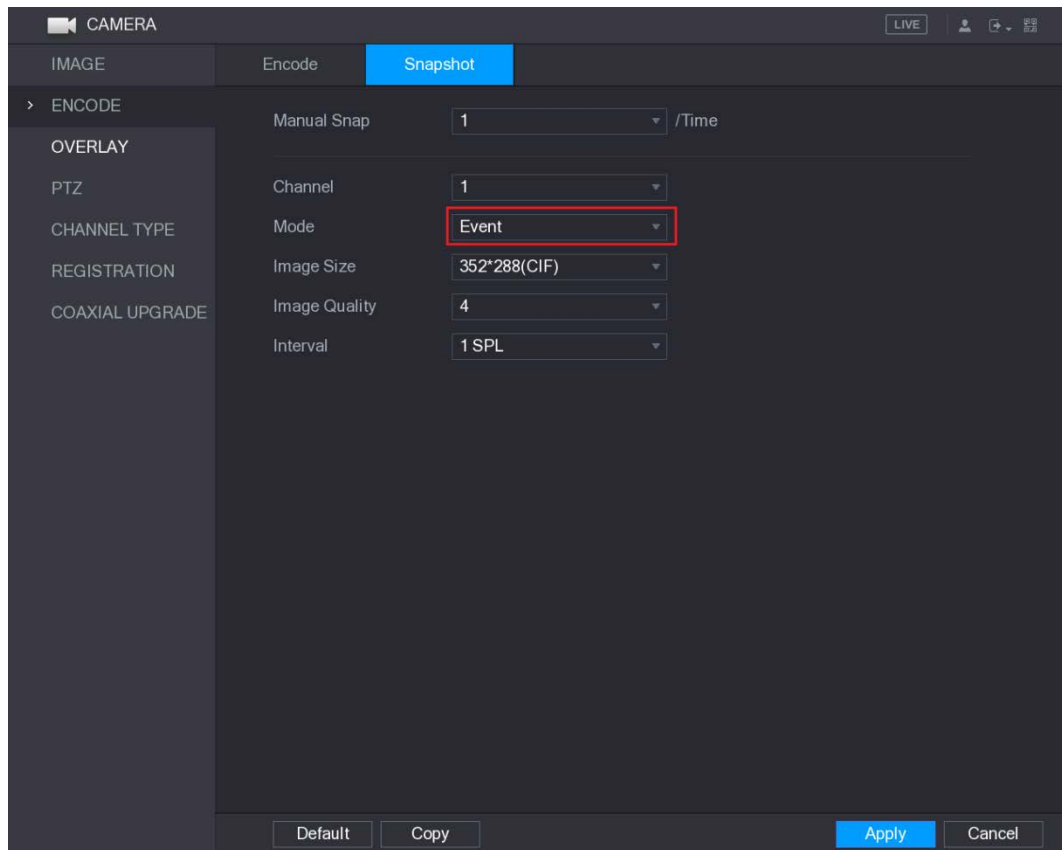

Figure 5-93
Step 2 In the **Mode** list, select **Event**, and then configure other parameters. See Figure 5-93.